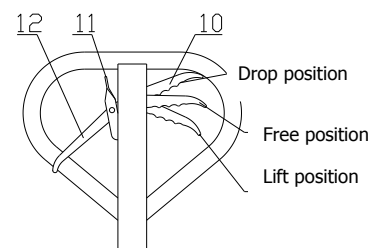

Fig. 5
4.1 After the truck is assembled, try to rock the hand grip and operate different positions of control handle knob 10 to examine the lifting, free position and dropping and check that whether the different positions are normal or not. See fig 5.
5.3 See fig 5, when hand knob 10 is placed on the lift position, the truck will be in a state of lift. At this time, if you rock the hand grip, the truck will be lifted.
5.4 See fig 5, when hand knob 10 is placed on the free position, the truck will travel. At this time, if you rock the hand grip, the truck will neither lift nor drop. Then, you can use the truck to move the cargo.
5.5 See fig 5, when the hand knob 10 is placed on
5.6 See fig 5, when the hand knob 12 is placed below, the truck will be in a state of free walking.
5.7 See fig 5, when the hand knob 12 is placed above, the truck will be in a state of brake.
5.8 See fig 5, hand knob 11 is used for release brake.